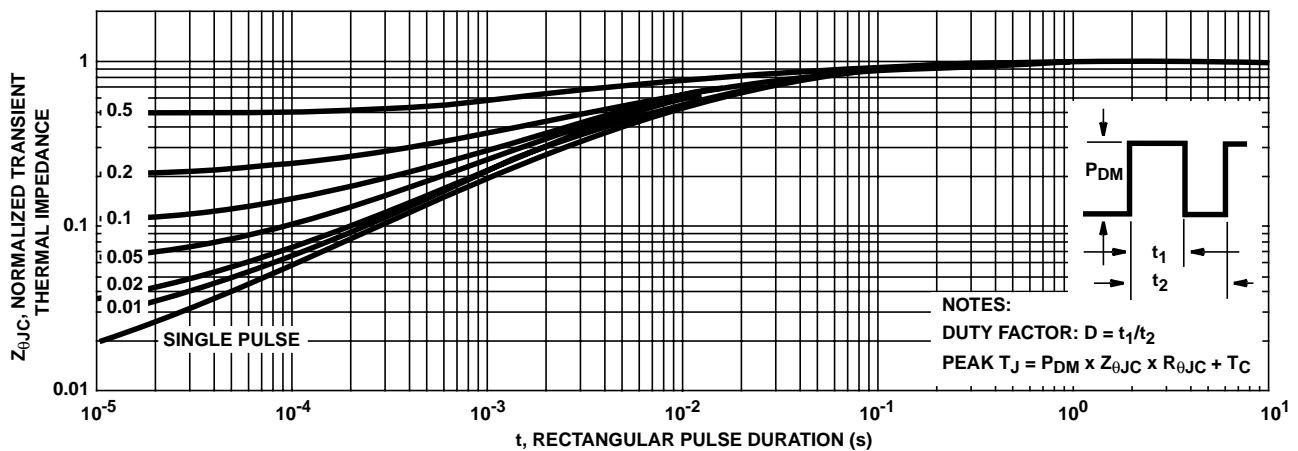

FIGURE 3. NORMALIZED MAXIMUM TRANSIENT THERMAL IMPEDANCE
Pulsed Drain Current (Figures 3, 5) (Note 3)	Refer to Peak Current Curve
3. Repetitive rating: pulse width limited by maximum junction temperature. See Transient Thermal Impedance curve (Figure 3).